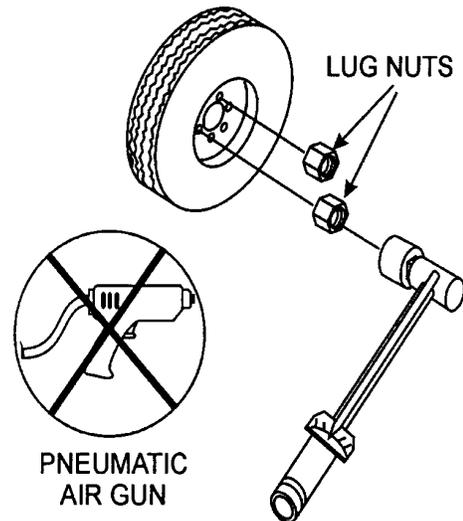

Figure 59. Wheel Lug Nuts Tightening Sequence
2. Torque all lug nuts in sequence (see Figure 59). **DO NOT** torque the wheel lug nuts all the way down. Tighten each lug nut in 3 separate passes as defined by Table 18.